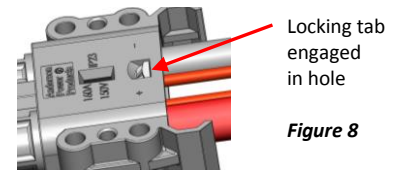

Figure 8
- c. Push from the back of the holder until the holder locking tab snaps into the rectangular opening (Figure 8)